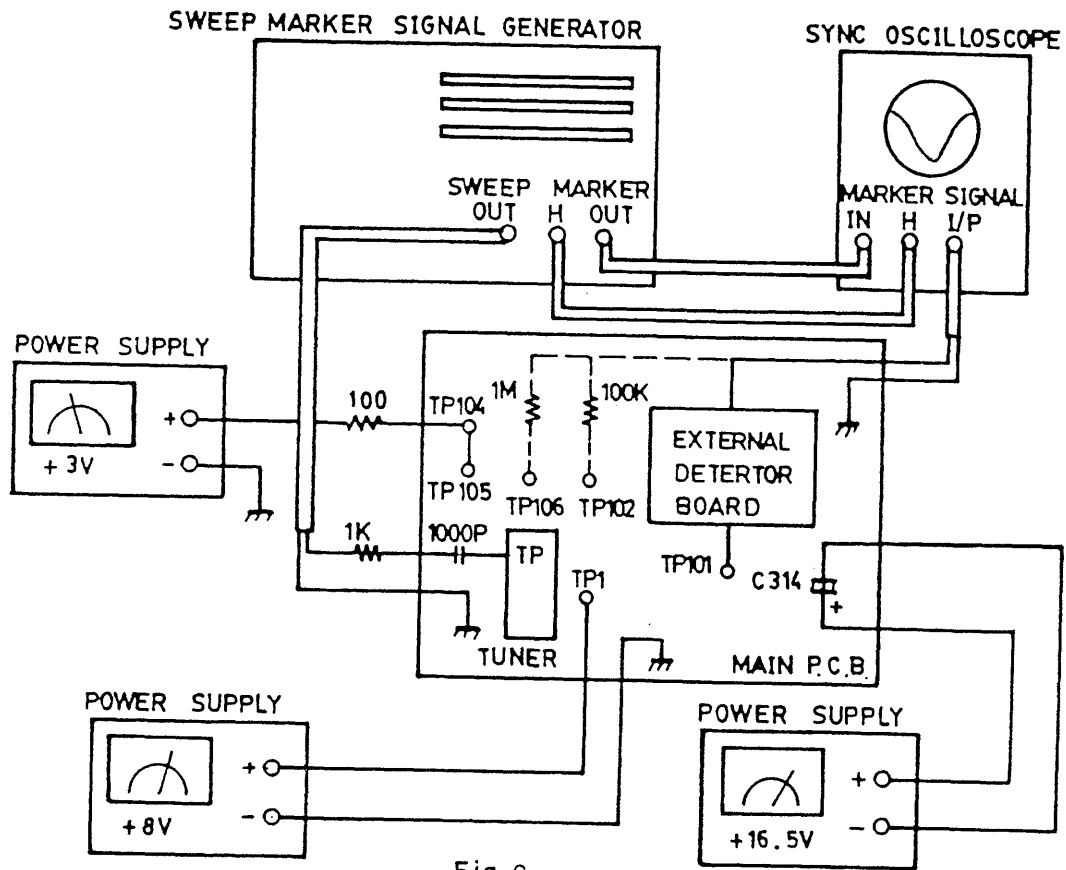

Fig. 6
1. Connect the signal output of sweep/marker generator to the Tp of Tuner through 1 K ohm resistor and 1000PF capacitor. (See Fig.6.).